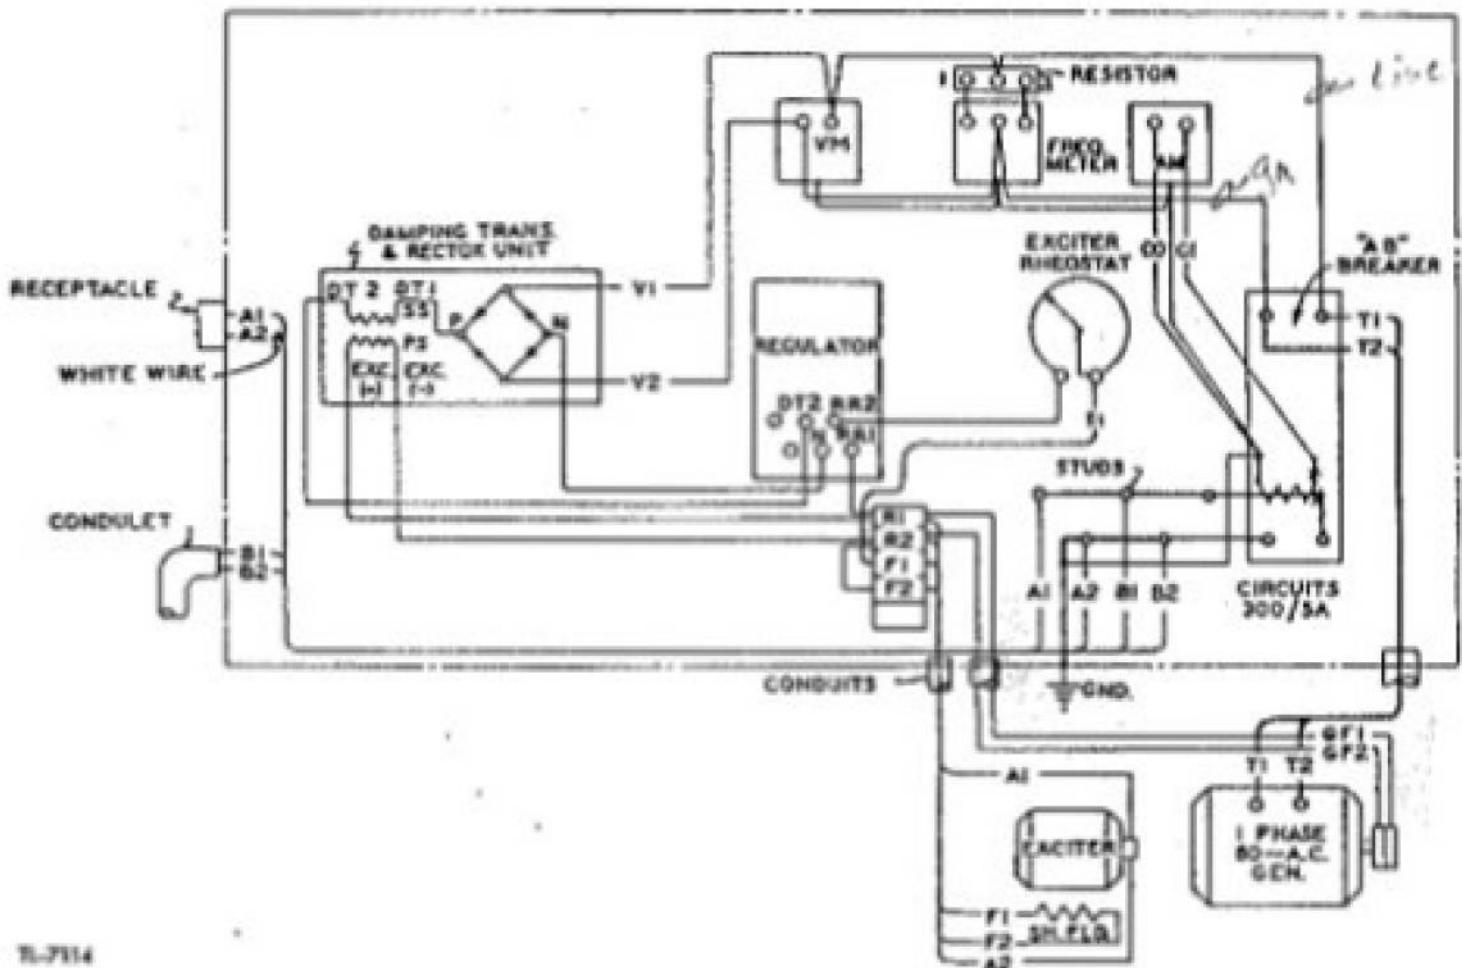

Figure 19. Wiring diagram of alternator (generator) connections. Rear view of panel is shown.
h. All leads from the generator are brought to the control panel, and are enclosed in flexible armored conduit. (See fig. 19.)